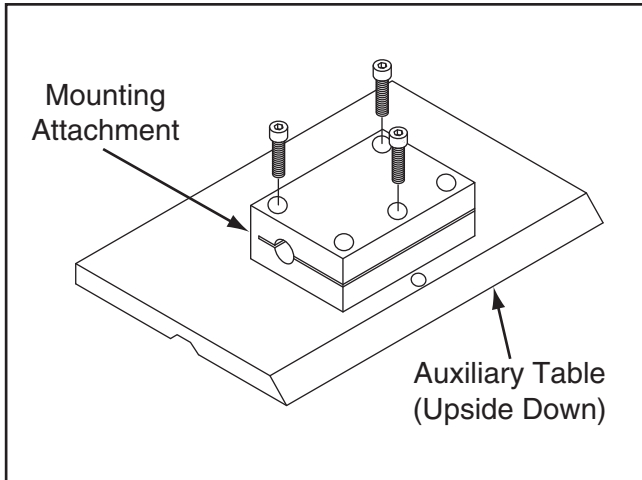

Figure 3. Installing mounting attachment to auxiliary table.
1. Lay the auxiliary table of the Model D3978 Accu-Sharp Jig upside down on a stable surface (see **Figure 3**).
2. Position the mounting attachment on the auxiliary table, as illustrated in **Figure 3**, then secure it in place with (3) of the provided cap screws.